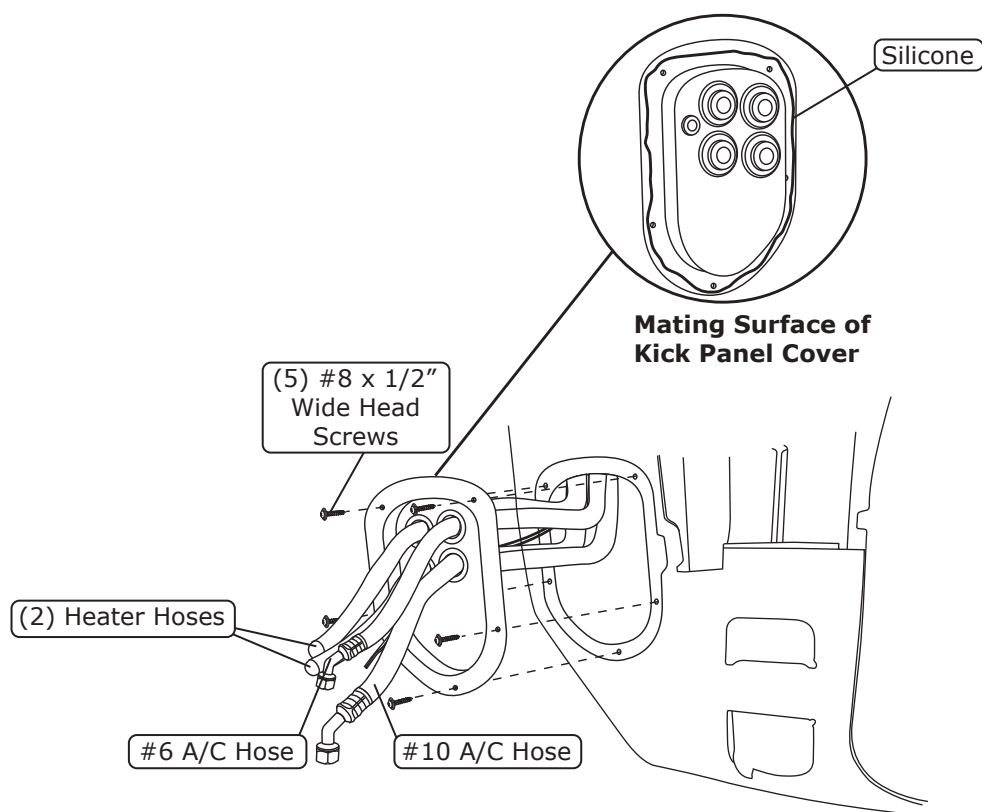

Figure 1
5. Apply 1/4" bead of silicone around the back side of the kick panel cover (See Figure 1, below).
6. Secure the kick panel cover using (5) #8 x 1/2" wide head screws (See Figure 1, below).